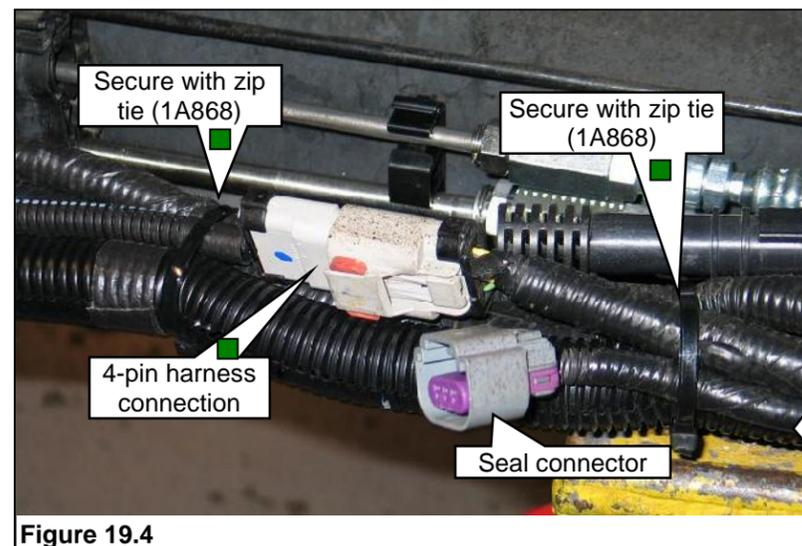

Figure 19.4
3. The rear frame harness includes a connector lead for a fuel temperature pressure transducer (FTPT). This lead is not used on F-450/F-550 Liquid Propane Autogas vehicles and requires connector end be sealed and secured. **Figure 19.4.**